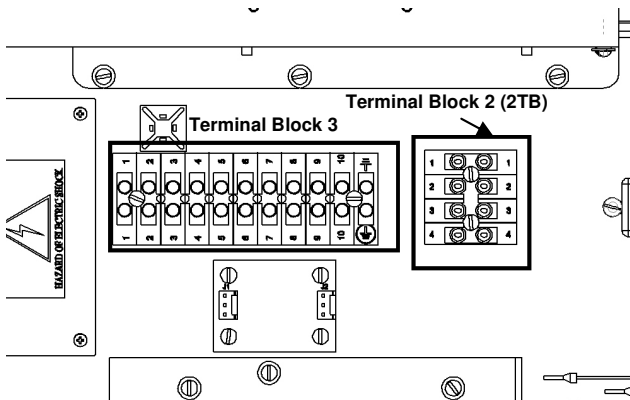

Figure 16: I/O Terminal Block Locations
4. Connect the conductors to the respective remote I/O signal locations. Screw down the terminal block screws to secure the conductors in place. The I/O Signal Locations table contains the complete list of all I/O, ground, and 24VDC supply locations as well as their normal voltage/current values. The locations of the I/O terminal blocks are shown in Figure 16.